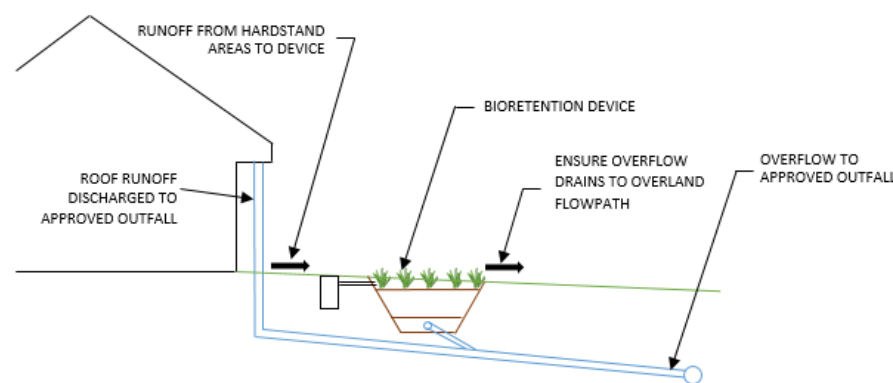

Figure 2: Schematic showing typical arrangement for bioretention reduced
- The bioretention reduced device is designed to cater to stormwater runoff from impermeable areas where cars drive and park at your property. The bioretention reduced device should be sized so that it has an AREA equivalent to 2% of the impermeable trafficked areas draining to it (i.e. roof area does not need to drain to a bioretention reduced device). The device should be located in such a way to maximise the collection of site runoff from trafficked areas. Refer to Figure 2 below for an indicative schematic of the typical arrangement for a bioretention reduced device. Ensure overflow from the device drains to approved overland flowpath.